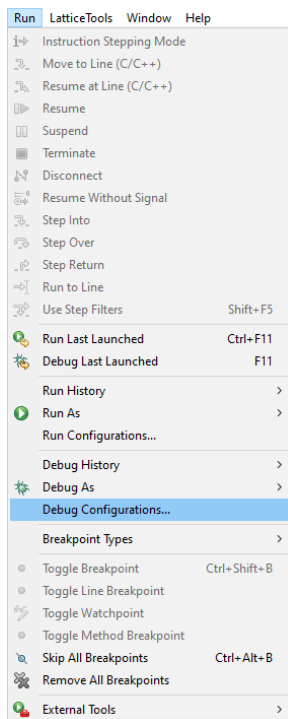

Figure 4.15. Launching Debug Configurations
5. In the **Debug Configurations** window, select and double-click GDB OpenOCD Debugging. A window should appear on the right that automatically populates the fields as shown in Figure 4.15.